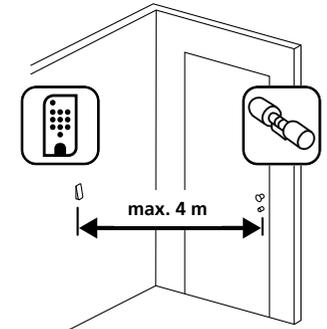

Fig. 31
- 1 Place the keypad in the desired installation location (Fig. 31).